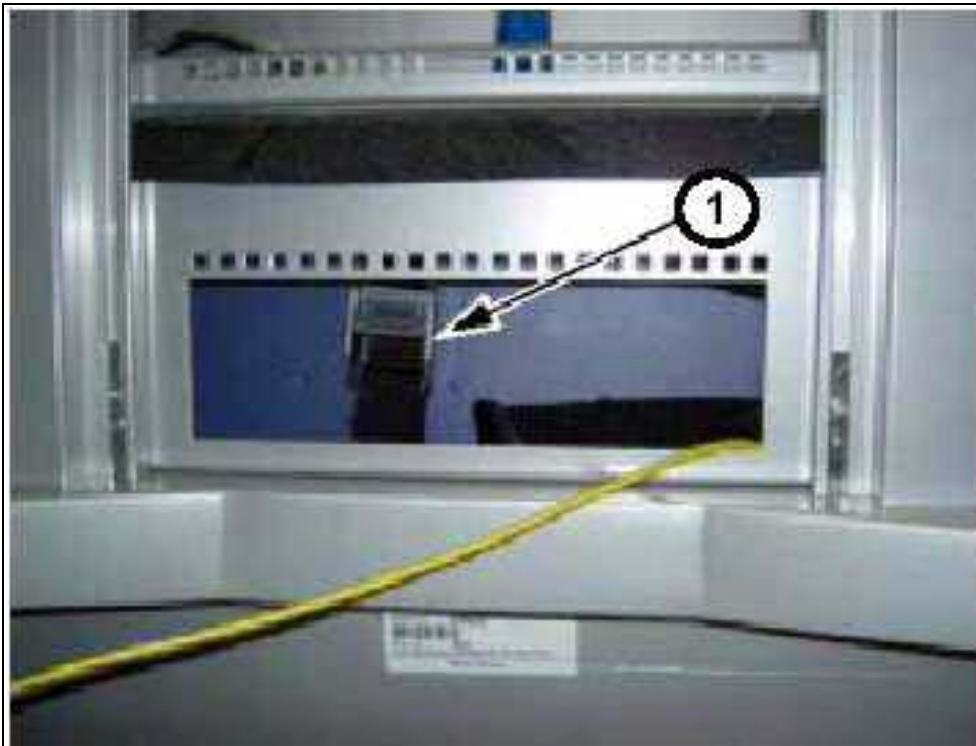

Fig. 41: Replacing the UPS\_2
3. Loosen the tension belt (1/Fig. 41 / p. 84) and remove the UPS from the monitor trolley.
Side covering was already removed in (Fig. 41 / p. 84).